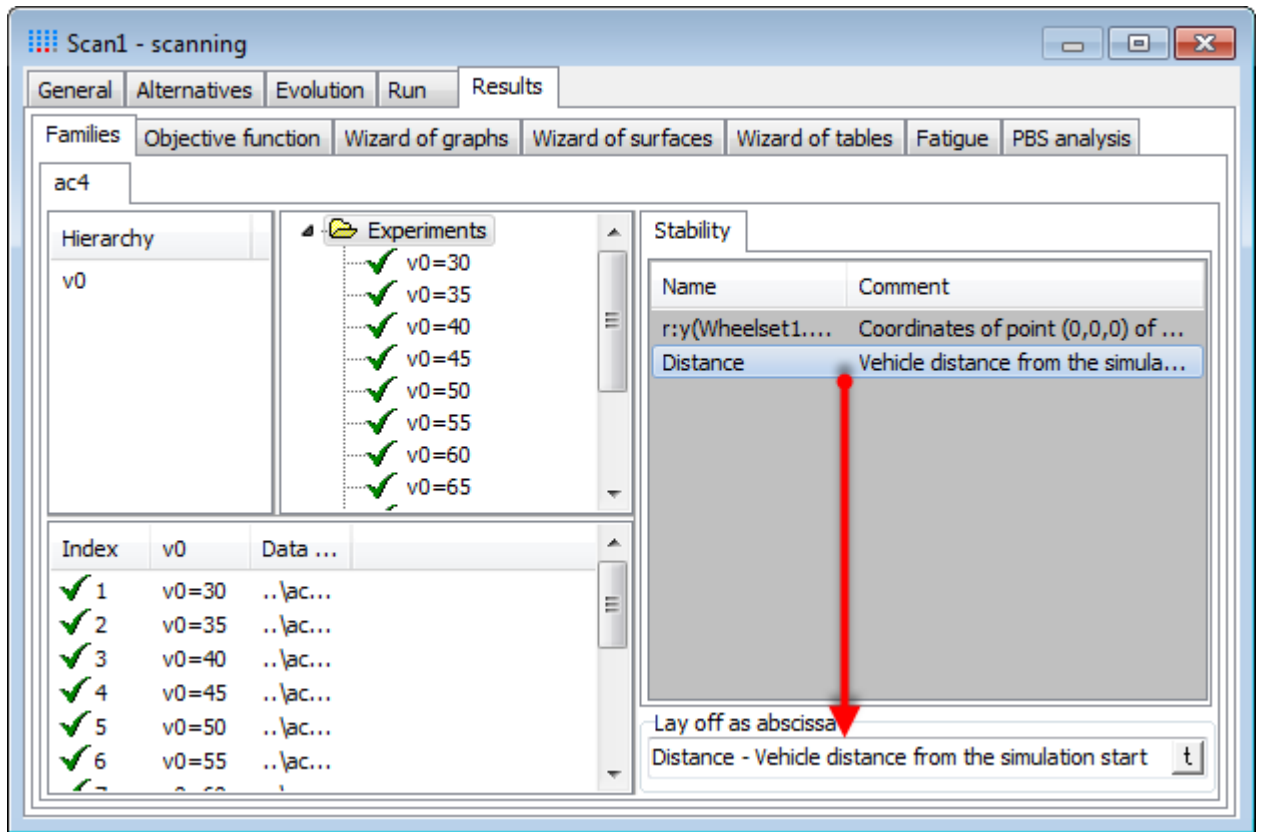

Figure 3.18. Lay **Distance** off as abscissa
2. Select the **Distance** variable in the list of variables and drag it to the **Lay off as abscissa** box, see Figure 3.18.